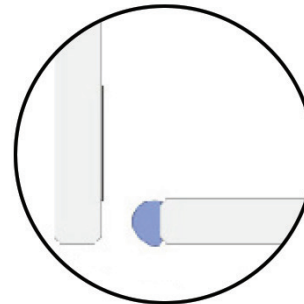

FIG 10.
- Run a continuous bead of silicon down entire length of 10mm face of installed wall to glass panel and across floor channel to the width of the glass to glass panel (FIG 10).